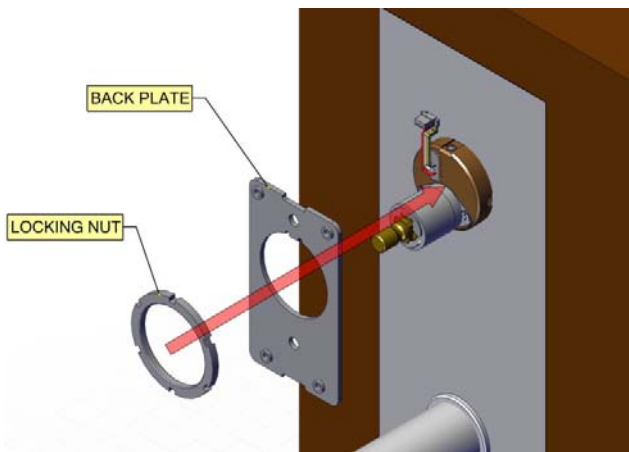
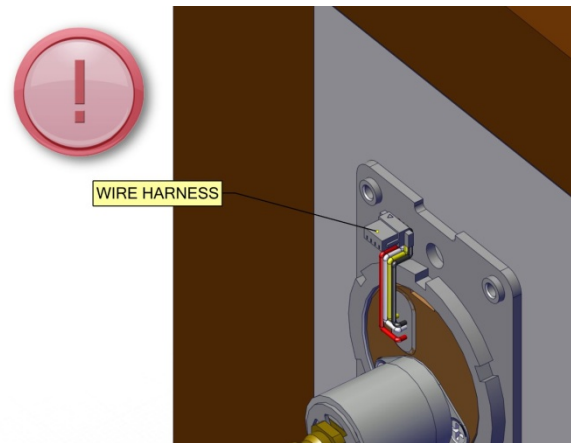

Fig. 8
Fig. 9
Step 4: Add back plate and locking nut (Fig. 8). **Warning:** Wire harness goes through plate (Fig. 9).